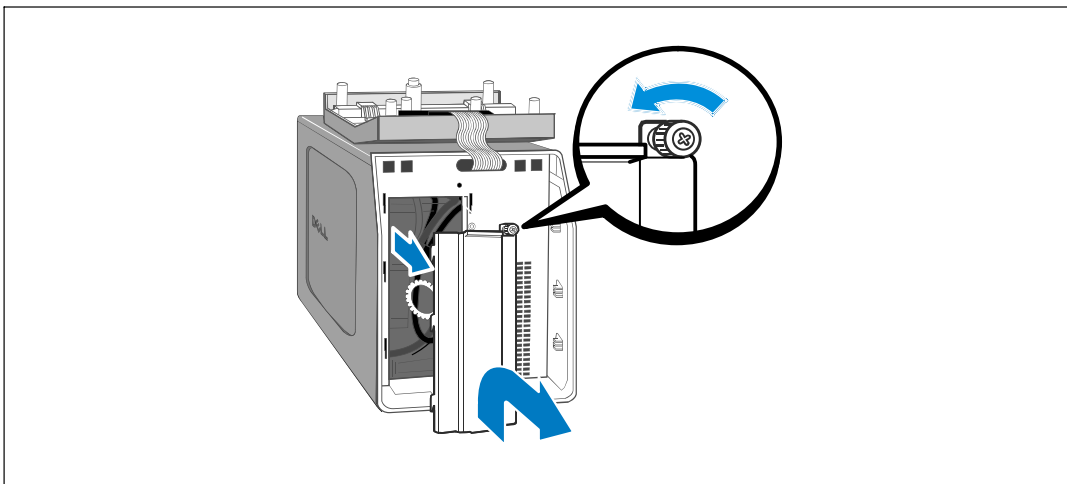

Figure 11. Removing the Battery Cover
- 3 Unscrew the thumbscrew on the the metal battery cover and lift up to remove the cover (see Figure 11).